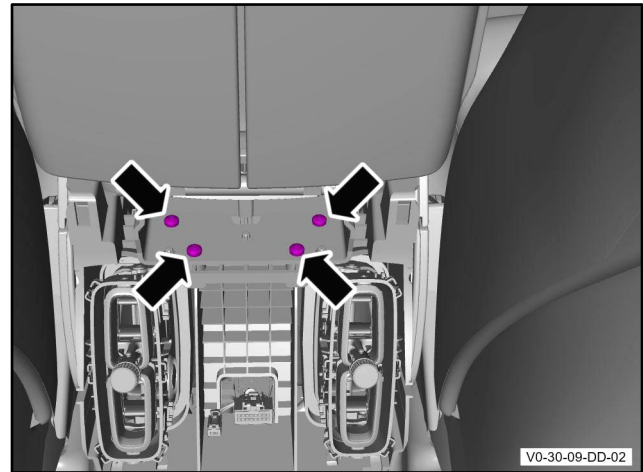

Figure 14
8. Remove the four bolts for the centre console armrest lid (refer to Figure 14).